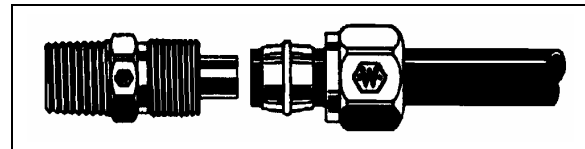

FIGURE 47: HOSE FITTING 12055
**NTA-Type Plastic Tubing:** Hand tighten nut (Fig. 47). From that point, tighten using a wrench the number of turns indicated in the following chart.